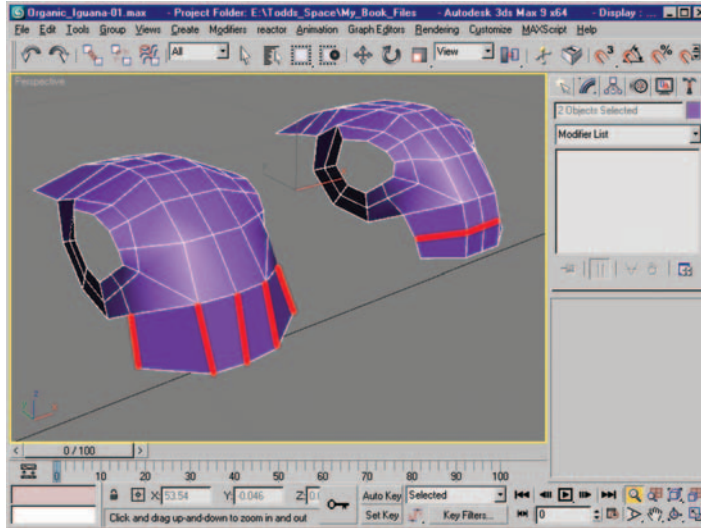

Figure 9.16 Edge selection and resulting new edges after using *Connect*.
16. Select the ring of edges shown in Figure 9.16 (left). Use Connect to create the new row of edges (Figure 9.16, right).